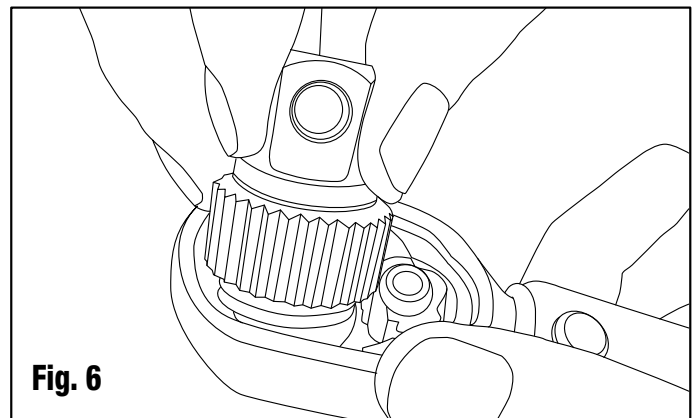

Fig. 6
Step 6: Insert the driver into the ratchet head aligning the teeth on the driver with the teeth on the pawl. See Fig. 6